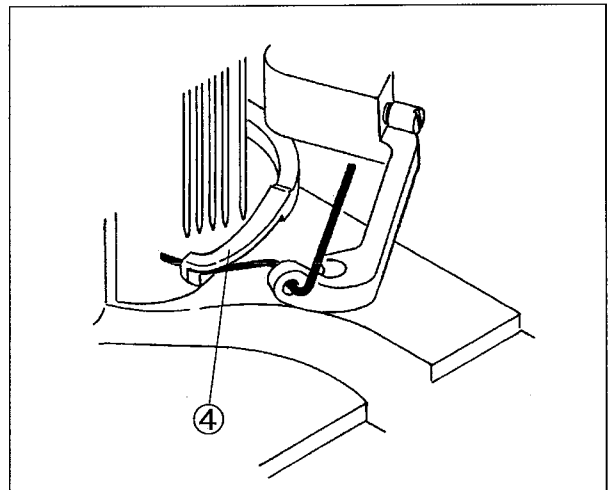

Fig. 57
At the moment the top cover thread is hooked with the top cover thread hook ④ (Fig. 57), the thread is held at the point 0 - 1.0 mm apart from the top of the take-up ⑤.